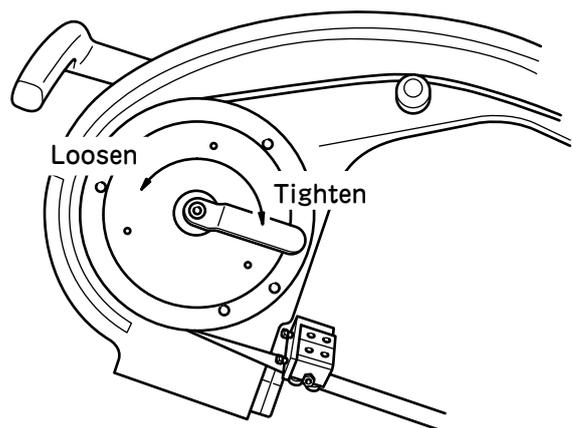

Fig.4
-Unlatch the front cover and open the cover. Turn the tension handle anti-clockwise. Do safekeeping in the state. [ Fig.4 ]
(2)Turn the tension handle counterclockwise. [ Fig.4 ]
(5)Turn the tension handle clockwise. The saw blade will be tight. [ Fig.4 ]